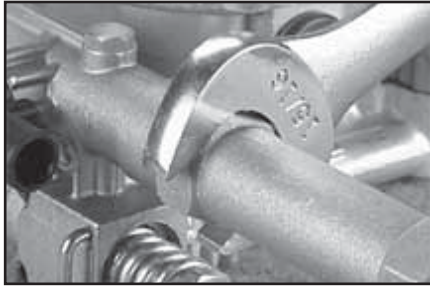

Figure 1
1. With a 15/16" open end wrench, remove the aluminum outlet tube (Figure 1).